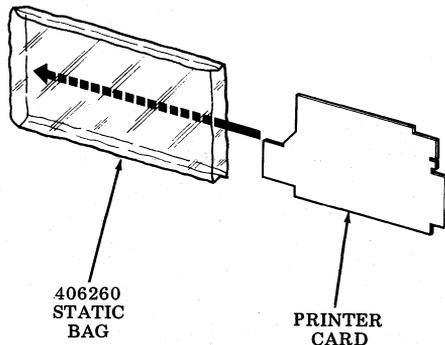

Fig. 7—Circuit Card Protective Bag
4.01 The 410071, 410072, 410076, 410640 and 410729 printer circuit cards contain MOS logic which requires careful handling. If the printer card is not already installed in the unit, it should be handled while stored in its protective 406260 static bag (Fig. 7).